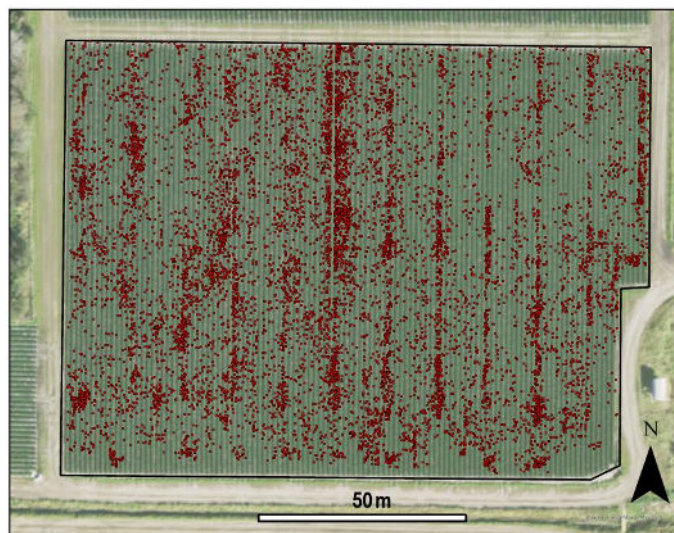

Figure 1. Population map of a commercial strawberry field during the fallow period, August 28th, 2024. Each red dot represents one purple nutsedge plant.
We developed a new way to find and map weeds in strawberry fields using artificial intelligence (AI) (Figure 1). The system combines digital cameras, GPS, and other components mounted on a tractor. As the tractor moves across the field, it records video of the plants. These videos are then processed by AI software that has been trained in the Weed Science laboratory to recognize and locate purple nutsedge.